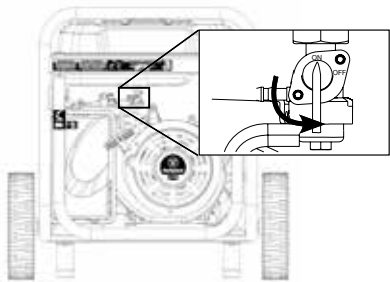

Figure 9 - Fuel Shut Off - ON
- ① 240/120V Main Circuit Breaker Operating Position
- ② 240/120V Main Circuit Breaker Tripped Position
- ③ 120V Circuit Breaker Operating Position
- ④ 120V Circuit Breaker Tripped Position
4. Move the fuel shut off valve to the **ON** position (see Figure 9 below).